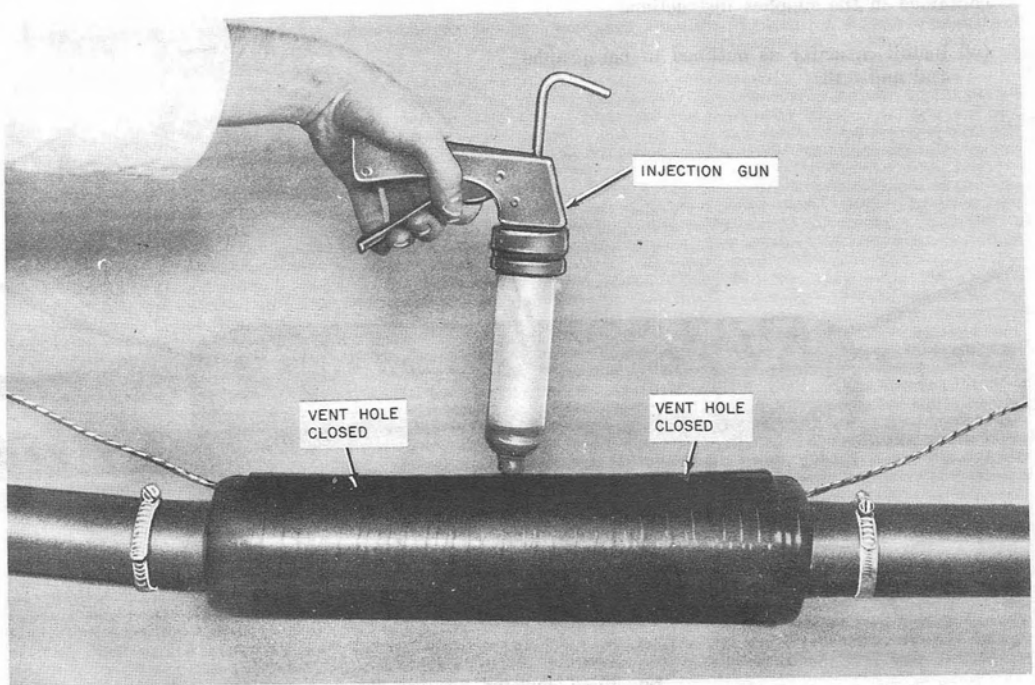

Fig. 29—Completing Injection of Compound with Vent Holes Closed
- (t) Install the injection gun on the cartridge and continue injecting compound until sustained back pressure is encountered (Fig. 29).